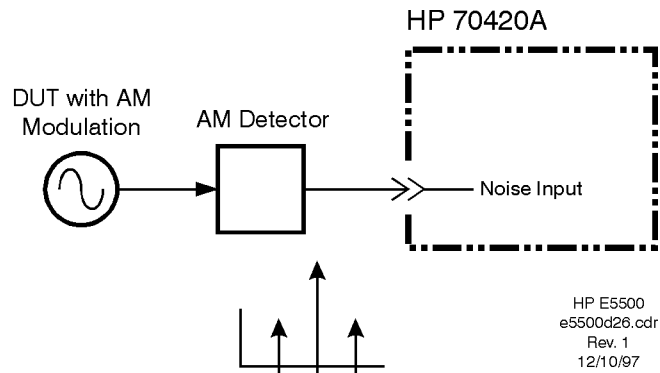

Figure 12-13 Measuring the Calibration Constant
- 5 Measure the AM detector calibration constant (Figure 12-13).